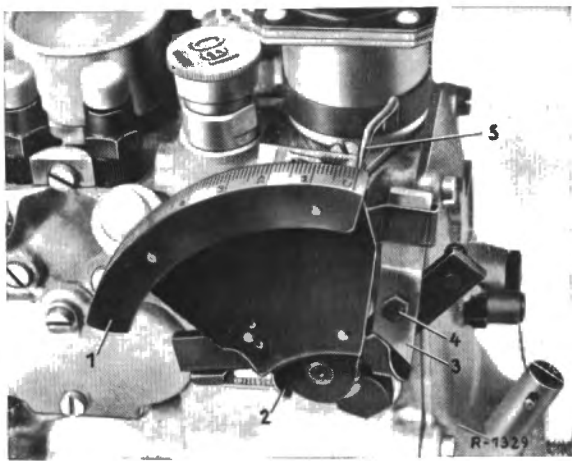

Fig. 00-16/2
For Models 230 SL and 300 SE with six-cylinder pump, the lever (3), which acts as a driver for the graduated disk on the injection pump, must be modified as shown in Fig. 00-16/6 by welding two lugs to the lever and beveling the upper right corner of the lever.